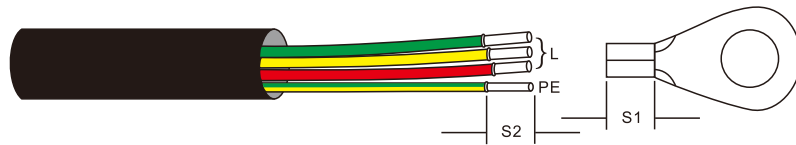

Figure 3.25 Strip AC cable
- 1) Strip the end of AC cable insulating jacket about 300mm then strip the end of each wire. (as shown in figure 3.25)